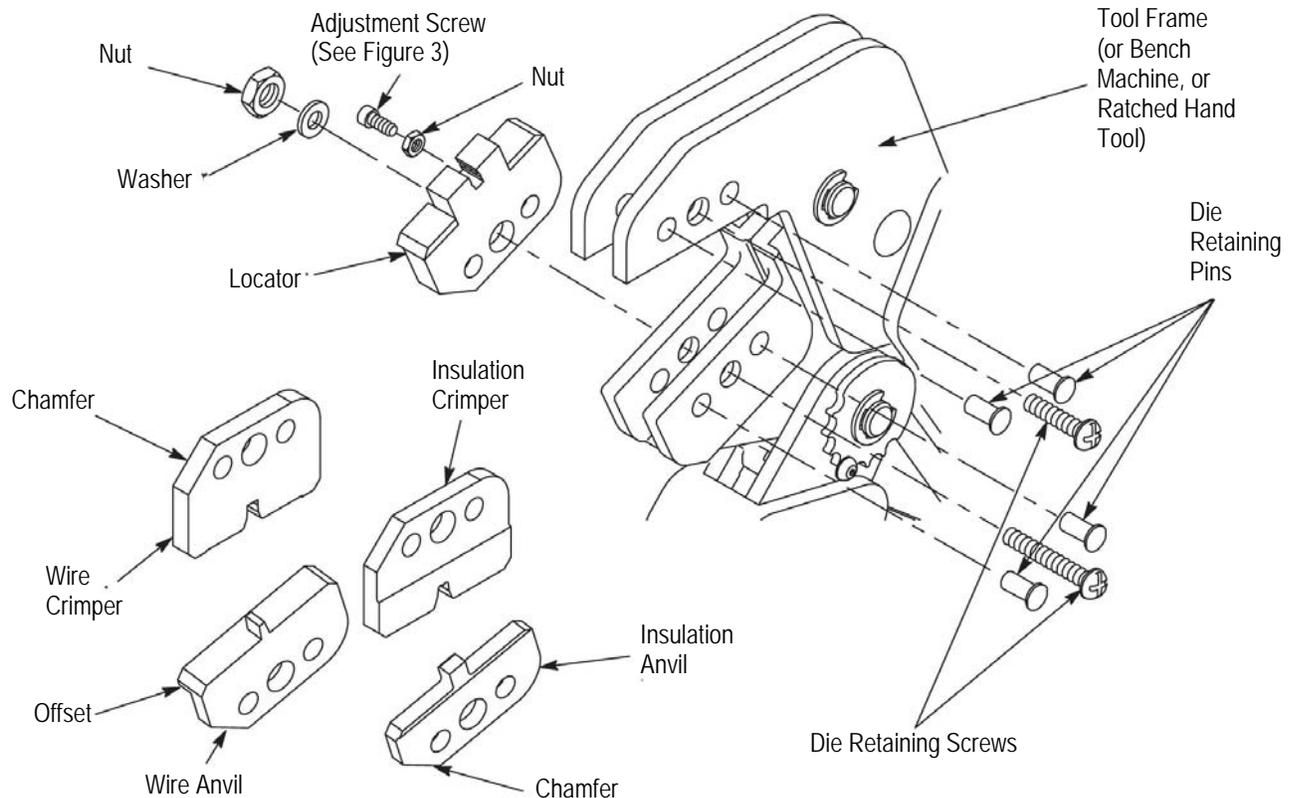

Figure 2
2. DESCRIPTION (See Figure 1 and Figure 2.)
3. INSTALLATION AND REMOVAL OF DIE SET AND LOCATOR ASSEMBLY (Figure 2)
- Added new information to bottom of Figure 1 table and callout in Figure 2